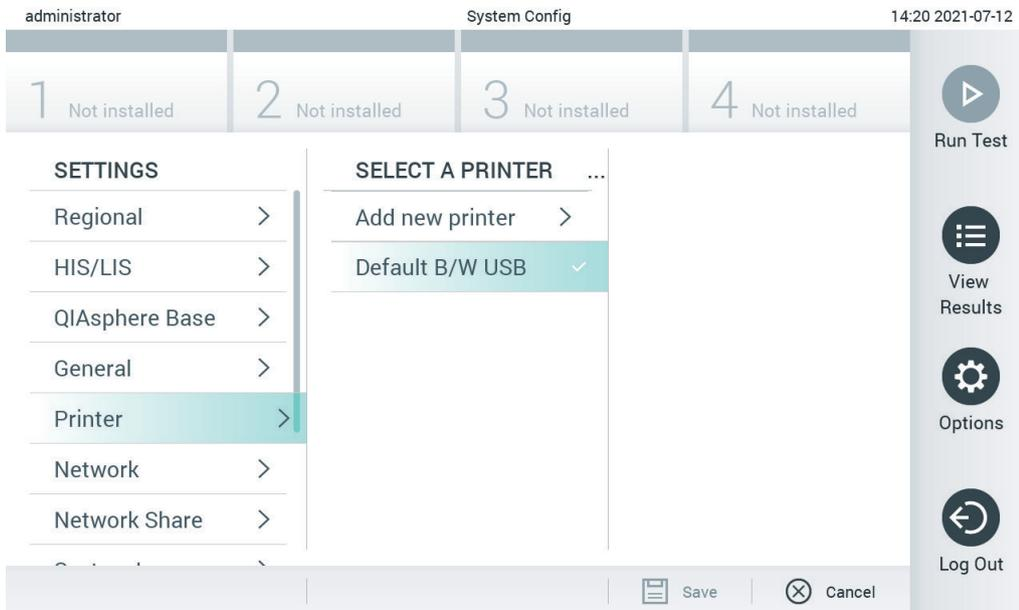

Figure 99. Printer installation with default driver
2. Select the default printer called Default B/W USB (Figure 99, next page)